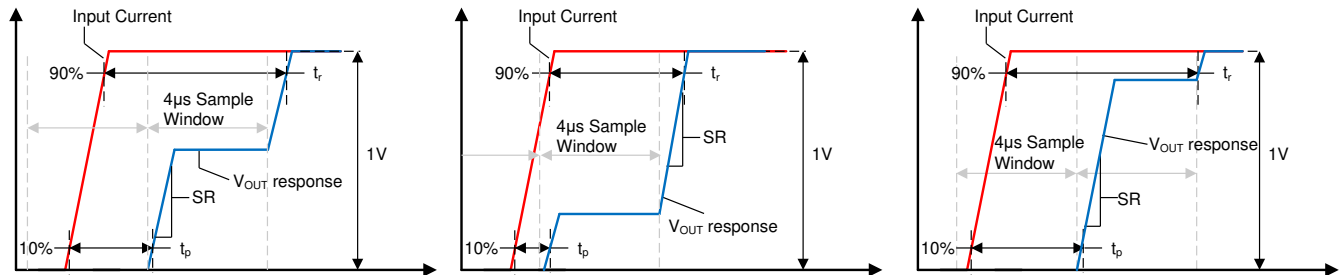

图 8-3. Small Current Input Step Transient Response
Slew rate (SR) is defined as the V_{OUT} rate of change for a single integration step's output transition, as shown in 图 8-3. Because the device often requires two sampling windows to reach a full 90% settling of its final value, this slew rate is not equal to the 10%-90% transition time for the full output swing.
Propagation delay is the time period between the input current waveform reaching 10% of its final value and V_{OUT} reaching 10% of its final value. This propagation delay is heavily dependent upon the alignment of the input current step and the sampling period of the TMCS1100-Q1, as shown for several different sampling window cases in 图 8-3.
Response time is the time period between the input current reaching 90% of its final value and the output reaching 90% of its final value, for an input current step sufficient to cause a 1-V transition on the output. 图 8-3 shows the response time of the TMCS1100-Q1 under three different time cases. Unless a step input occurs directly during the beginning of one sampling interval the response time will include two sampling intervals.